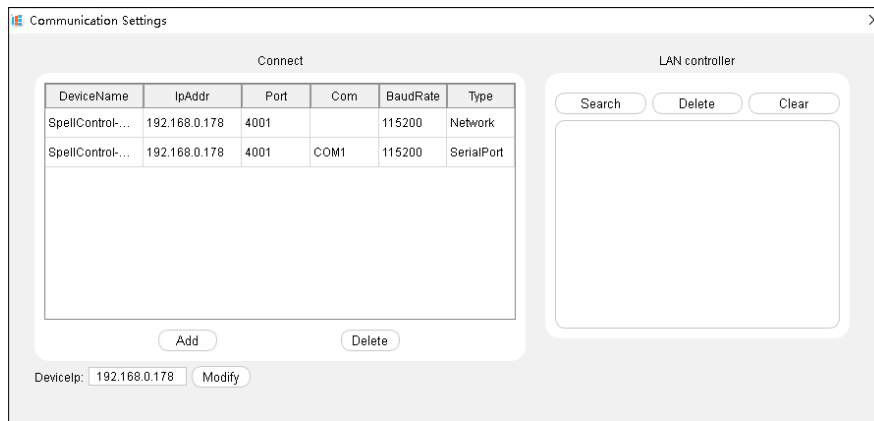

Figure 1-8 Communication Settings
- ① Select and double-click the device in the connection area "Splicing Control-Serial Port" to enter the serial port connection setting interface, see Figure 1-8 Communication setting interface above;